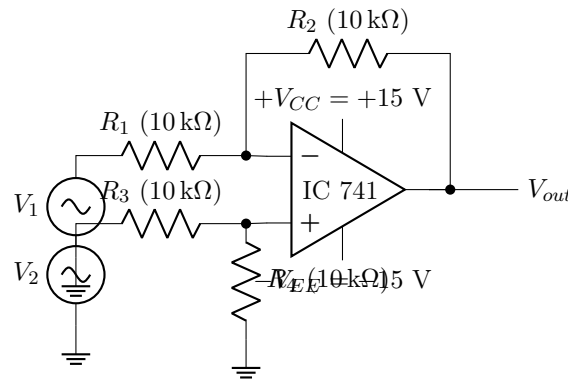

Figure 1.2: Difference Amplifier (Subtractor) Circuit Diagram
1. Reconfigure the circuit according to Figure 1.2.